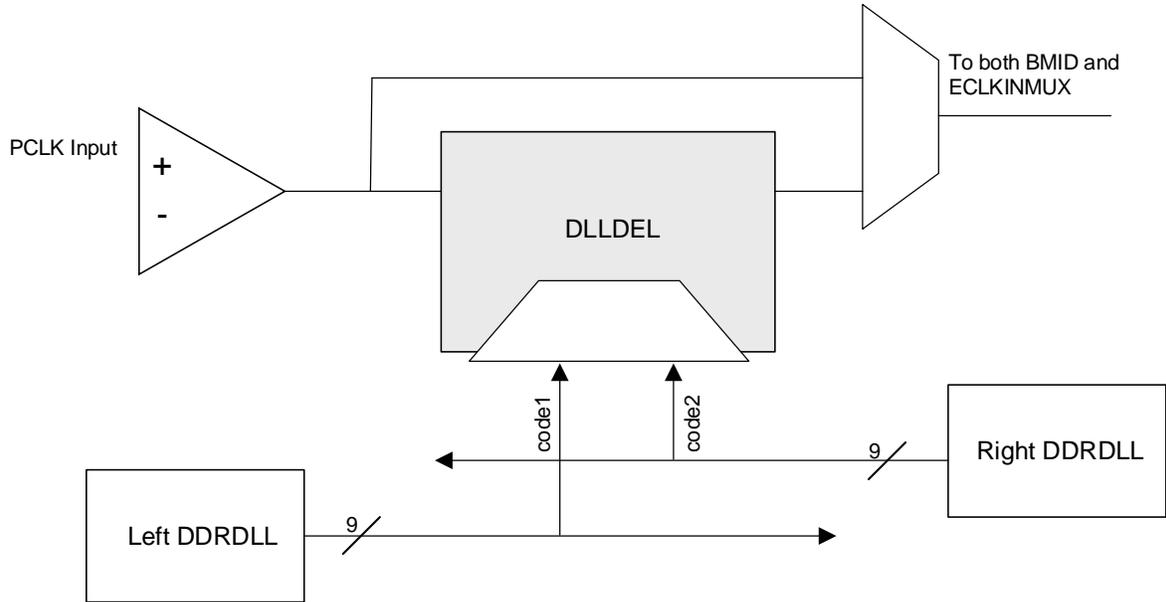

Figure 2.11. DLLDEL Functional Diagram
- The code is also sent to another slave DLL, DLLDEL, that takes a primary clock input and generates a 90-degree shift clock output to drive the clocking structure. This is useful to interface edge-aligned Generic DDR, where 90-degree clocking needs to be created. Not all primary clock inputs have associated DLLDEL control. Figure 2.11 shows DDRDLL connectivity to a DLLDEL block (connectivity to DQSBUF blocks is similar).